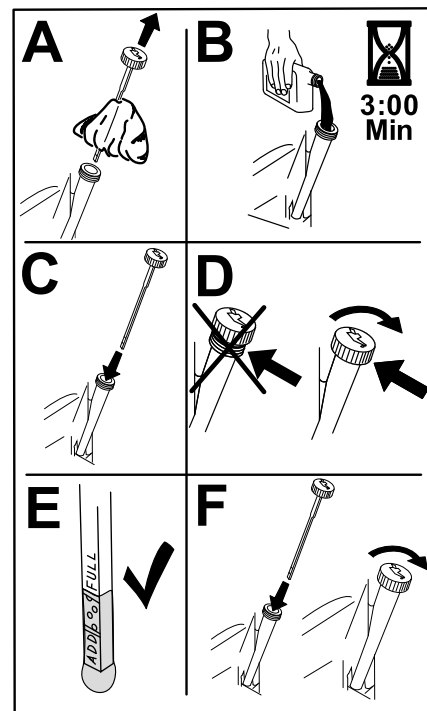

Figure 45
6. Slowly pour approximately 80% of the specified oil into the filler tube and slowly add the additional oil to bring it to the Full mark (Figure 45).